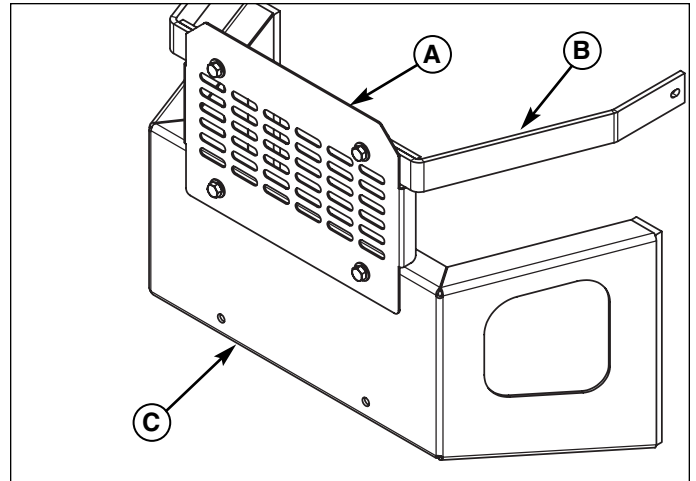

Figure 20. Remove Bumper Screen
1. Remove the hardware securing the rear bumper screen (A, Figure 20) to the top and bottom bumpers. Save the 3/8" bolts and washers from the lower bumper.